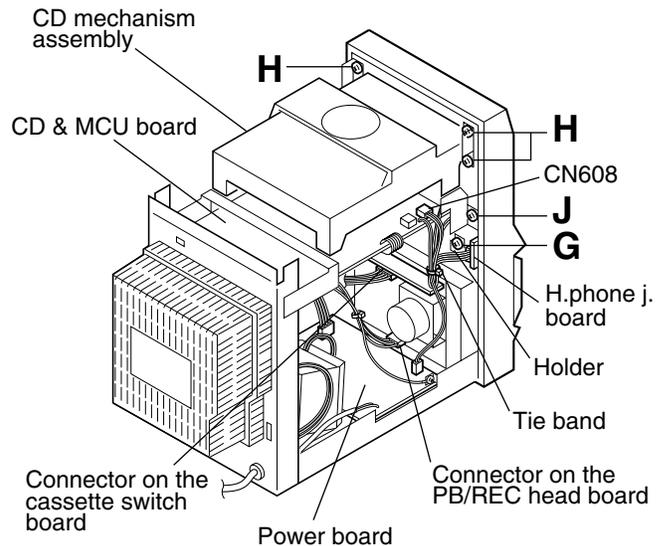

Fig.10
(See Figs. 10 to 12.)
1. From the left side of the main body, remove the tie band bundling the wires. (See Fig.10.)
2. Disconnect the wire from the connector on the cassette switch board. (See Fig.10.)
3. Remove the screw **G** retaining the holder on the H.phone j. board. (See Fig.10.)
4. Disconnect the wires from the two connectors CN607 and CN608 on the CD & MCU board. (See Figs.10 and 11.)
5. Remove the four screws **H** and the two screws **J** retaining the CD mechanism assembly from the left and right. (See Figs.10 and 11.)